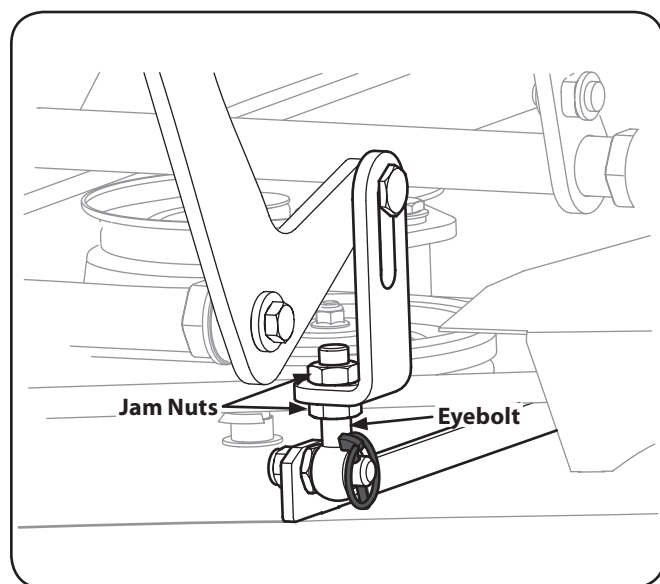

Figure 6-3
4. Adjust the eyebolt at the left front of the deck so that the blade-to-ground height at the right front blade tip matches that of the left front blade tip. This is done by loosening the jam nuts on the eyebolt and tightening the upper nut to raise the deck and loosening the nut to lower the deck. The right front blade tip height is fixed so you must adjust the left front tip to match it. See Fig. 6-3.
2. Loosen the jam nuts at the rear left and right of the deck horizontal threaded rods. Refer to Fig. 6-3.